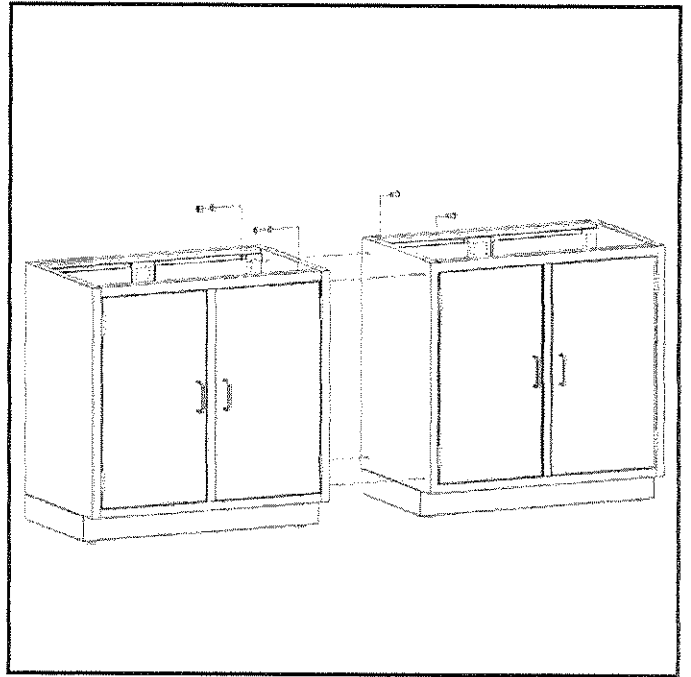

Figure 2
5. Secure cabinets together by drilling four holes on each side of cabinet and then attach together side-by-side with appropriate fasteners, not included (see Figure 2).